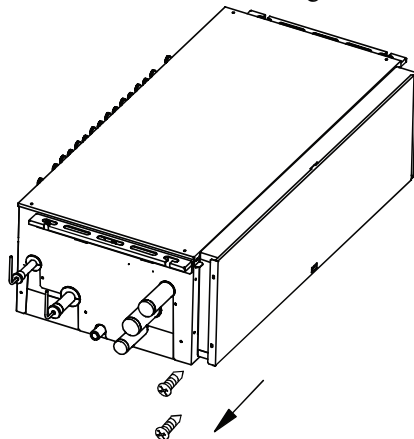

Fig. 18 — Removing the Electronic Control Box Cover Screws
3. Remove the screws as shown in Fig. 18.